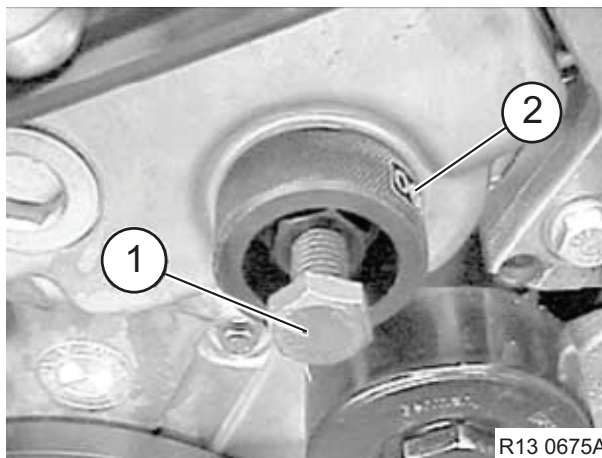

Figure 6-29
1. Remove jack screw (**Figure 6-29, (1)**) but leave sleeve (**Figure 6-29, (2)**) (special tool OEM No. 13 5 192) installed.